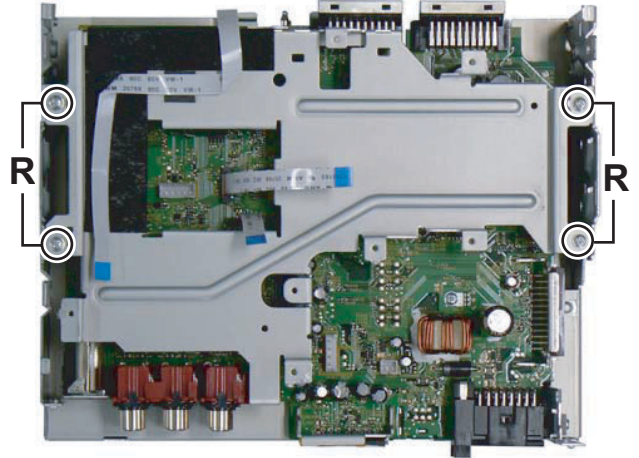

Fig.15
3.1.8 Removing the Center chassis (See Fig.15)